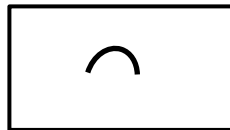

FIGURE 4.3
- D Tapered side up (1)
4.3 What does the supplementary symbol indicate in FIGURE 4.3?